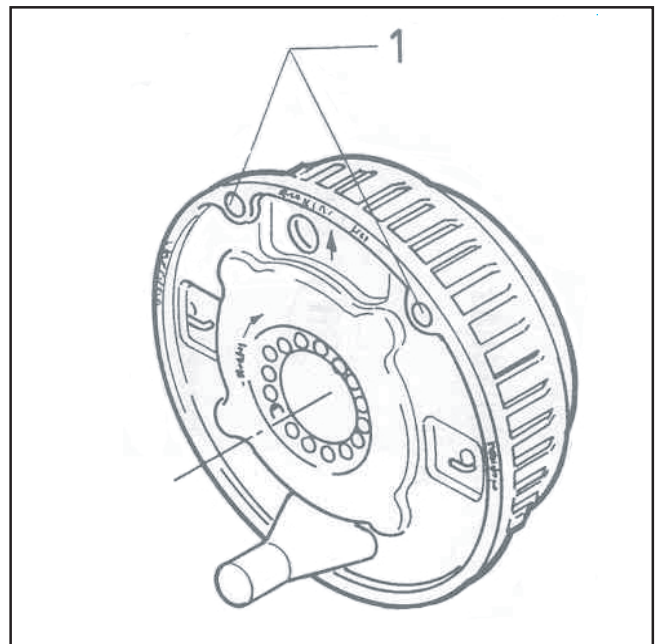

FIG.63
- Through the inspection hole (FIG.63-REF.1) check the brake linings' wear. Adjust if required.